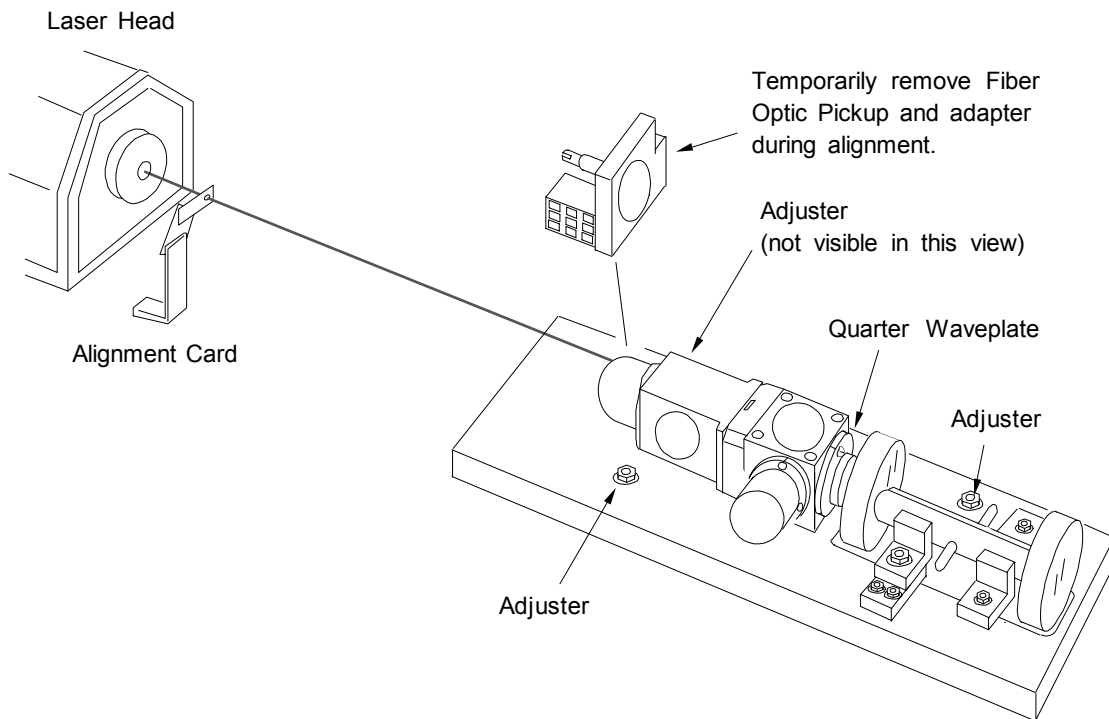

Figure 5 Aligning the Wavelength Compensator
1. Set the output beam of the laser head to the 2 millimeter alignment beam. Place an alignment card with a 2 millimeter hole at a convenient location along the beam path, so the beam passes through the pinhole in the card, as shown in Figure 5.